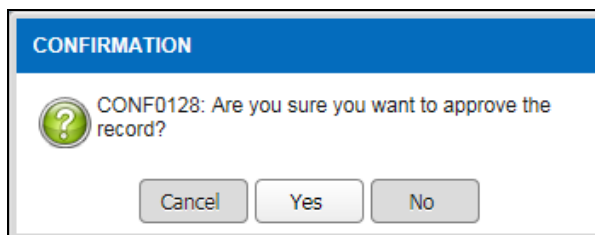

Figure 3.4.2-3 Confirmation Message
- Confirmation message will be displayed as Figure 3.4.2-3
- Click on the  button and information message will be displayed as Figure 3.4.2-4